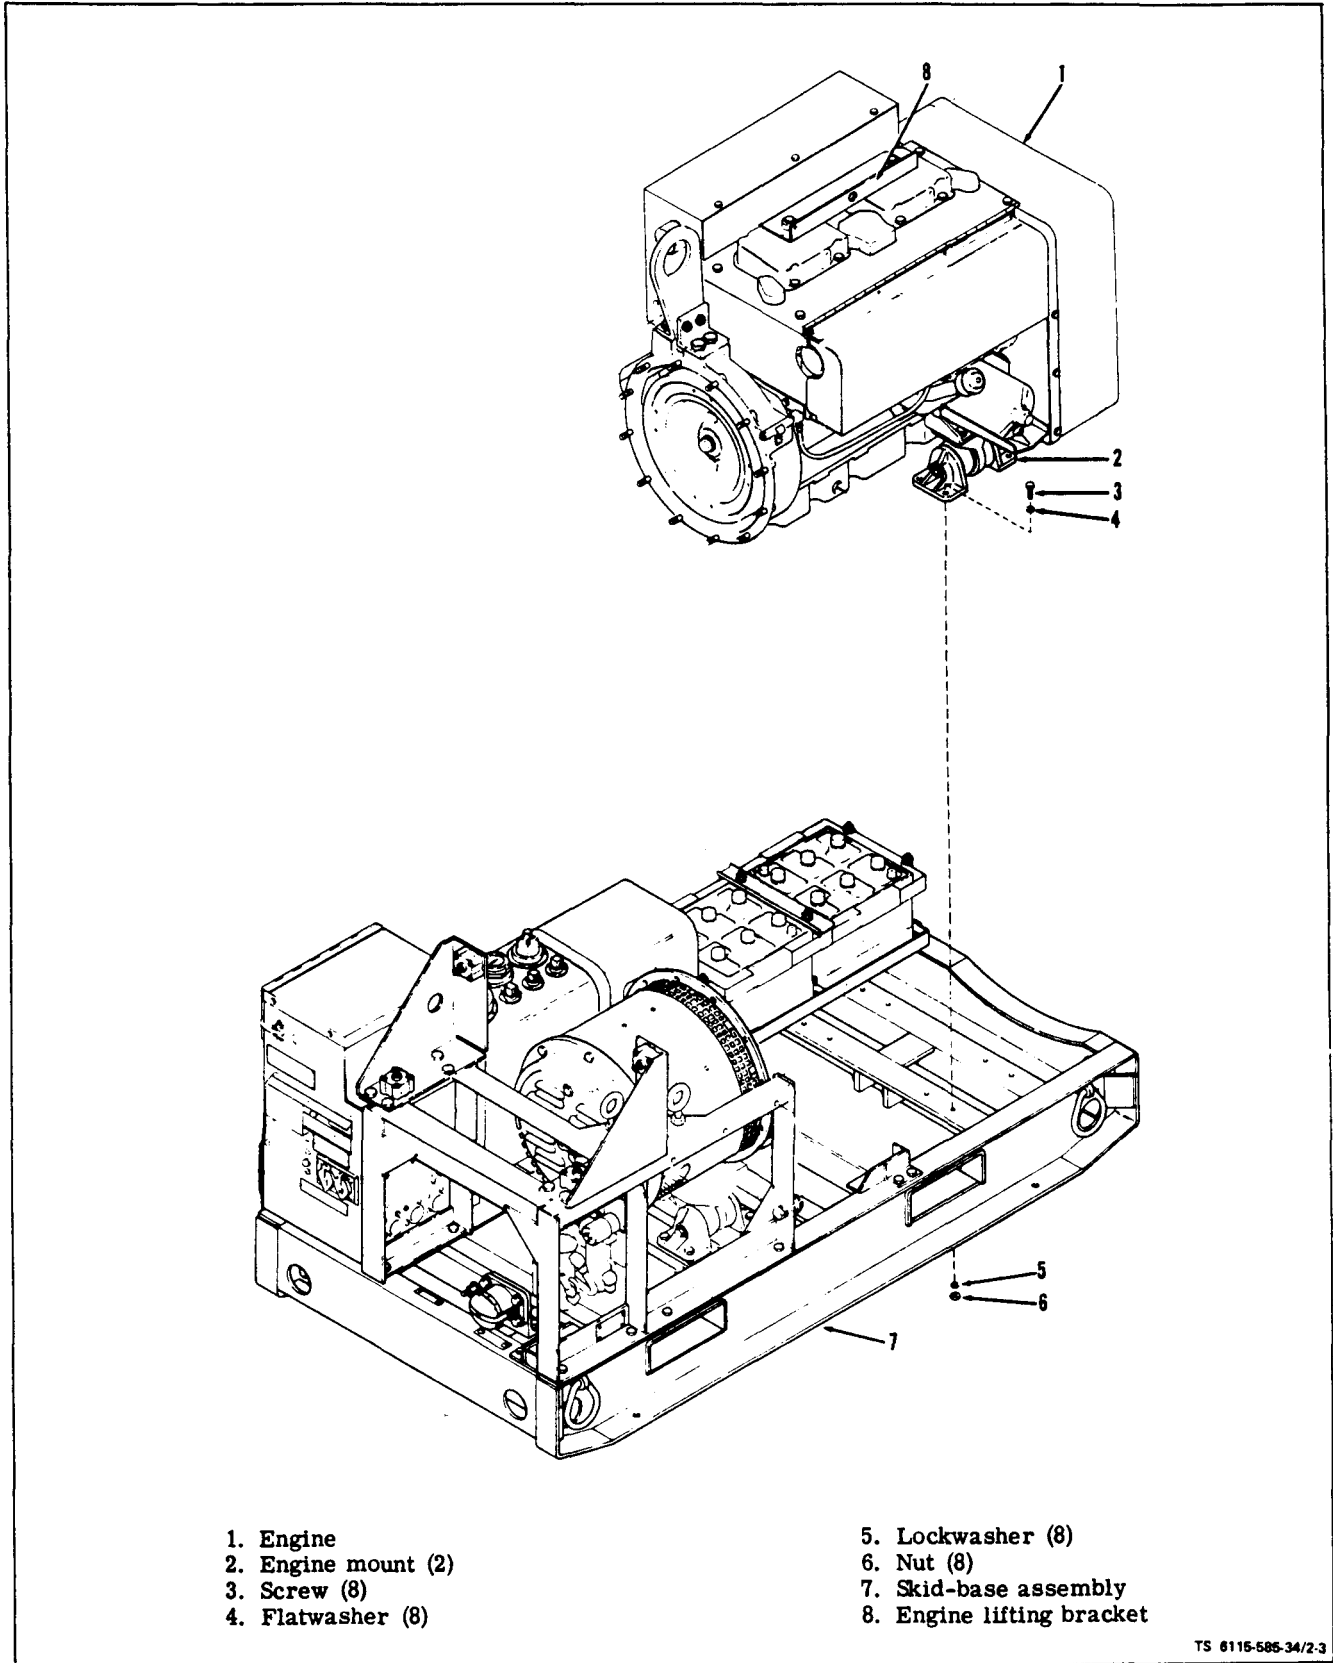

Figure 2-3. Lifting Engine
(11) Remove four screws (3, figure 2-3), lockwashers (5), flatwashers (4) and nuts (6) attaching each engine mount (2) to skid-base (7). Lift engine free of Generator Set.
(2) Lift engine generator assembly into place on skid-base and install screws (3, figure 2-3), lockwashers (5), flatwashers (4) and nuts (6) to attach engine mounts to skid base.
(1) This installation procedure is to be followed if the engine has been removed and the generator has been left mounted on the skid-base.
(2) Lift engine into place on skid-base using engine lifting bracket (8, figure 2-3). Leave about a 6 inch space between the generator and the engine.